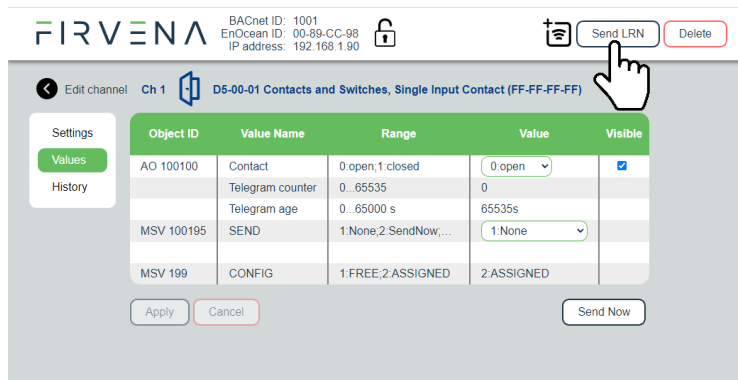

Fig. 5.6 Virtual device – send teach-in telegram
1. Click on the channel 1 box to see channel details (Fig. 5.6)